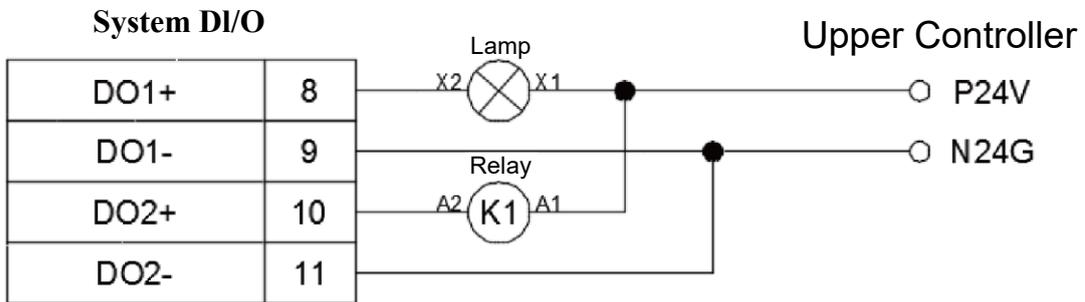

Figure 5.28 System DO upper controller voltage output NPN wiring
- Figure 5.28 shows the NPN wiring method when the selected output voltage signal is the upper controller voltage output.